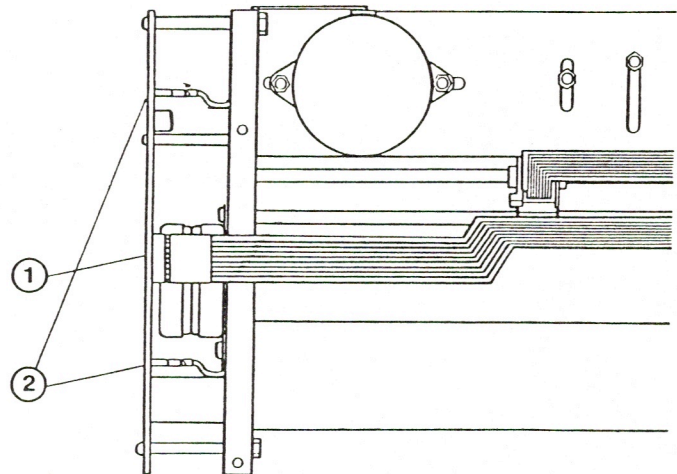

FIGURE 10
4. Turn the chassis up and disconnect the print head cable (Figure 10, #1).
5. Disconnect the left margin switch connector (Figure 10, #2).
**NOTE:** On the EMI version of Silentype, the left margin switch consists of two wires, as shown in Figure 10. Earlier Silentypes have only one wire (the rear one).
11. Tip the chassis back down. Plug in the motor plugs (on each, the orange wire connects to the top pin) and the interface cable (Figure 10, #1 and 2). Remove the tape from the frontmost plug.